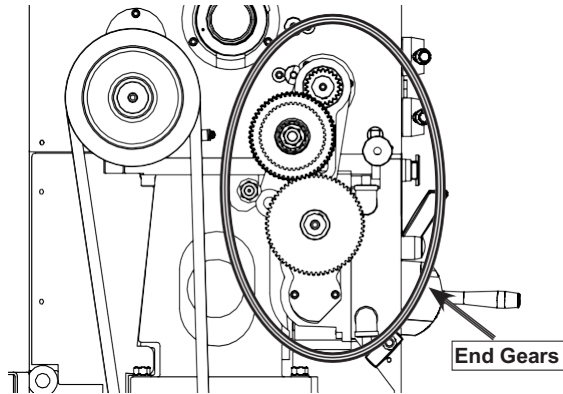

Figure 77. Location of end gears that require grease.
2. Remove the headstock side cover and all the end gears shown in Figure 77.
The cutting fluid system consists of a fluid tank, pump, and flexible nozzle. The pump pulls fluid from the tank and sends it to the valve, which controls the flow of cutting fluid to the work area. When the valve is opened or closed, the fluid comes out of the nozzle and drains through the chip drawer and into the catch tray and then into the tank where it is picked up again by the pump. Figure 77 shows many of these components and their locations.